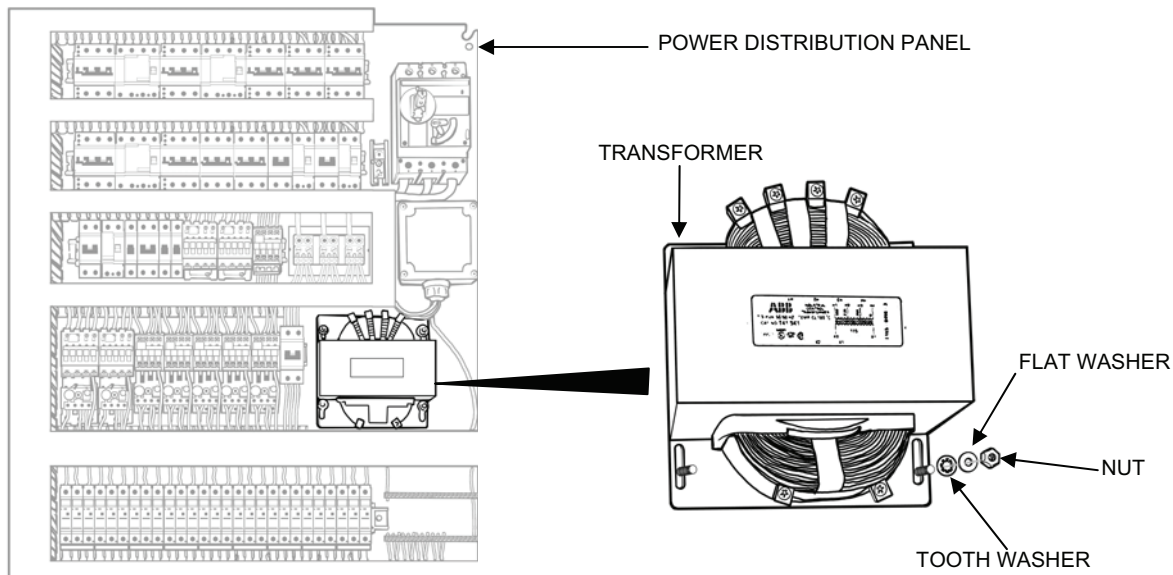

Figure 10. Transformer Replacement.
1. Remove the transformer as follows (see Figure 10):